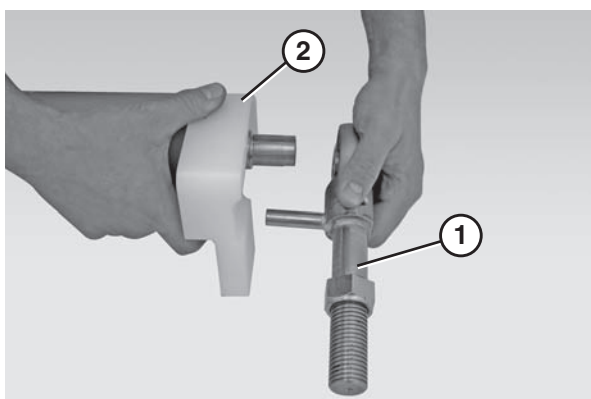

Figure 64
- Remove the bearing shaft (**Figure 64, item 1**) and both pinch guards (**Figure 64, item 2**).